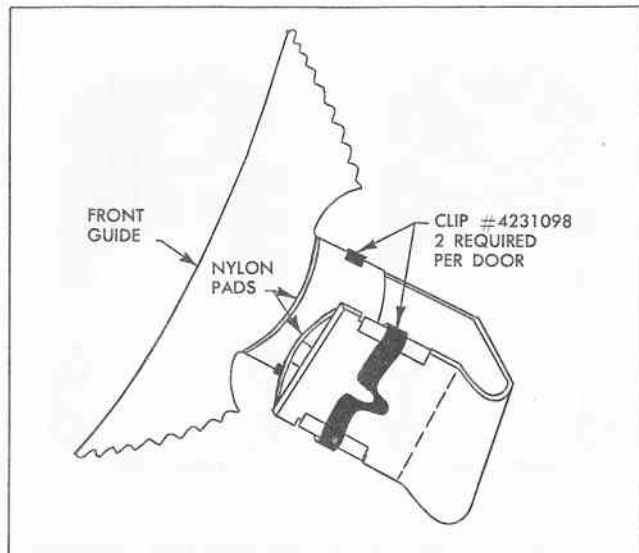

Fig. 18 Retaining Clips Installed
2. Attach retaining clips to nylon pads on front guide as shown in Fig. 18.